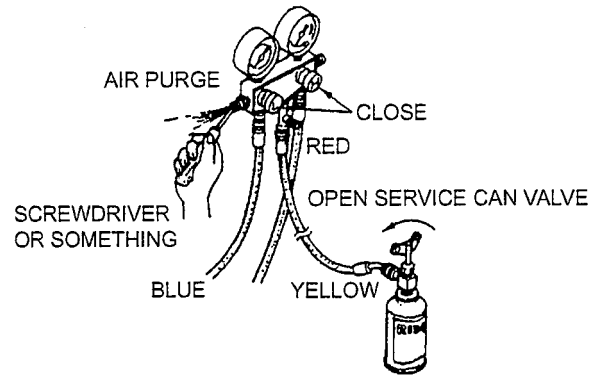

Fig. 25-28 Gas charging operation
(1) Charging from High Pressure Side (See Fig. 25-28.)
- 1) After making vacuum repeatedly, change the charging hose (yellow) of the gauge manifold from the vacuum pump to the service can. Open the service can valve. (However, close the high and low pressure valves of the gauge manifold.) Then push the mini core valve of the side service port on the low pressure side of the gauge manifold, using a screwdriver or something, in order to let out the air in the charging hose by the pressure of the refrigerant. (See Fig. 25-28.) (The operation ends when a hissing sound is heard.)